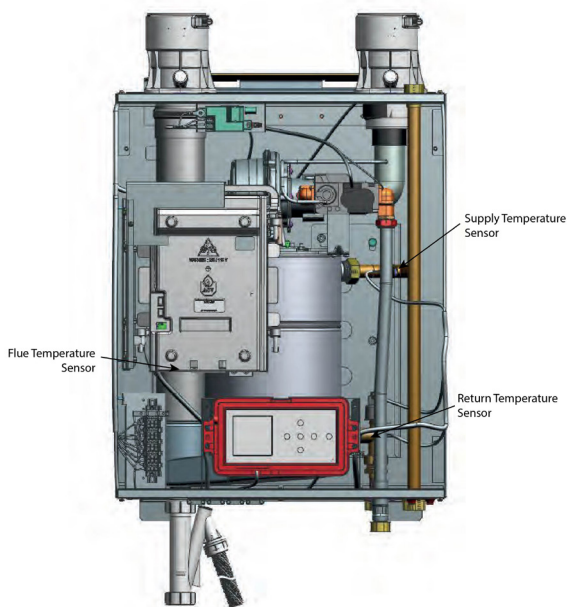
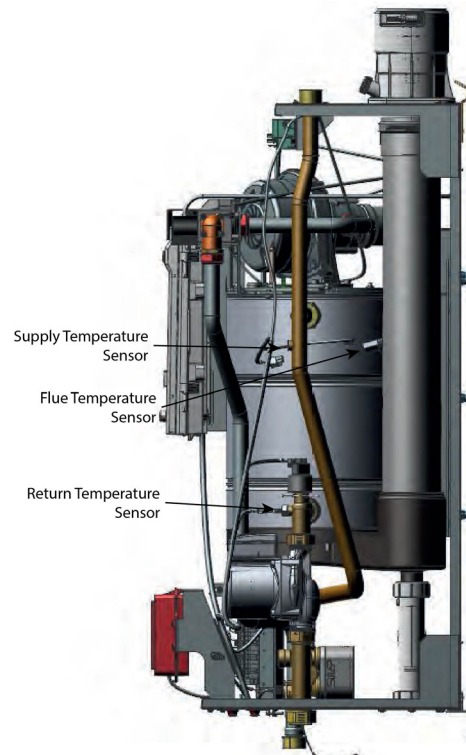
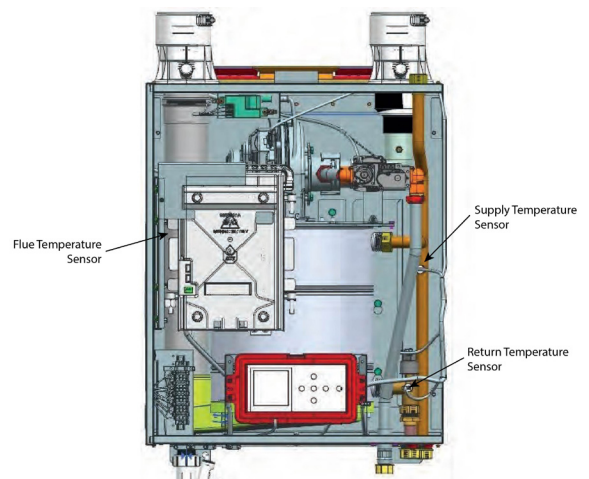

Fig. 1: Exalt 110 Temperature Sensor Location
Fig. 2: Exalt 155 Temperature Sensor Location
Fig. 3: Exalt 199 Temperature Sensor Location
7. Locate the temperature sensor location from Fig. 1 for Exalt 110, Fig. 2 for Exalt 155 models, and Fig. 3 for Exalt 199 models.